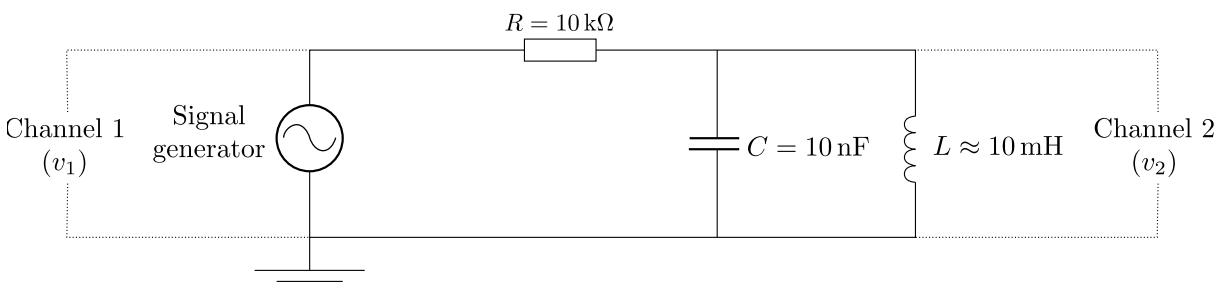
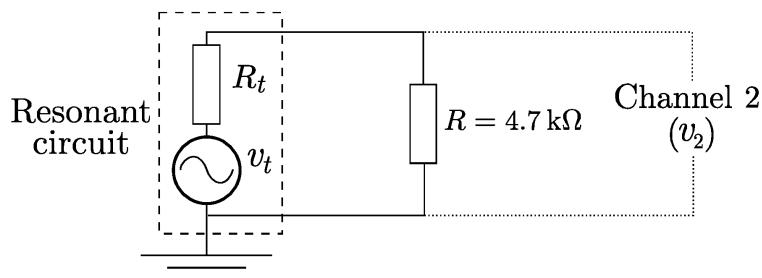

Figure 1: Circuit for the resonance experiment.
Figure 3: Circuit for Logbook 3.2, showing the equivalent circuit of Figure 1 at resonance.
This experiment uses an inductor and a capacitor in parallel, connected in series with a resistor (see Figure 1). This is a slightly more complicated version of a **voltage divider** seen in the earlier experiments. In this situation, one of the components of the voltage divider is the parallel combination of a capacitor and inductor, with the combination having an impedance varying with frequency. With this arrangement some of the current i flows in the capacitor and some in the inductor. At low frequencies, the inductor carries most of the current because its impedance $Z_L = j\omega L$ is low. At high frequencies, the capacitor carries most of the current because its impedance $Z_C = 1/j\omega C$, is low.
- Connect up the circuit in Figure 1. Set the signal generator (v_1) to $\sim 10\text{ V}$ peak-to-peak.
For the circuit shown in Figure 1, assuming L and C are ideal, the Q is given theoretically by the equation
So far in this experiment, we have assumed that the inductor is an ideal component. However, as an inductor is essentially a coil of wire it will have some resistance, R_L , as we saw in Experiment 3. Moreover, you will have found that your experimental and theoretical values of Q did not agree in Logbook 2.2. In this section, we will investigate the effect that the inductor's resistance has on the circuit in Figure 1.
To account for the non-ideal inductor, we take advantage of the fact that v_1 and v_2 are in phase at resonance, i.e., $\Delta\phi = 0$, so the circuit is purely resistive. This means that at f_0 we can use **Thévenin's Theorem** (see Experiment 2, section 3) to replace the complex circuit in Figure 1 by a single voltage source, v_t , and series resistance R_t , where $v_t = v_2$ at resonance. As in Experiment 2, we then connect a known resistor R across the two-terminal network, which creates a voltage divider (as shown in Figure 3) and allows us to determine the Thévenin equivalent resistance, R_t . It is *this* resistance, R_t , that we should use to calculate the theoretical Q via Eq. (3).
Logbook 3.1 To emphasise the simplification afforded by adopting the Thévenin equivalent, draw the full circuit of Figure 1, including the series resistance of the inductor. Remember, however, that this simplification applies only at resonance.
Logbook 3.2 Ensure that the LCR circuit is at resonance, i.e., $\Delta\phi = 0$, and record voltage $v_2 = v_t$. Now connect a $4.7 \text{ k}\Omega$ resistance R across the resonant circuit, as shown in Figure 3, and record the new value, v_R , of v_2 .